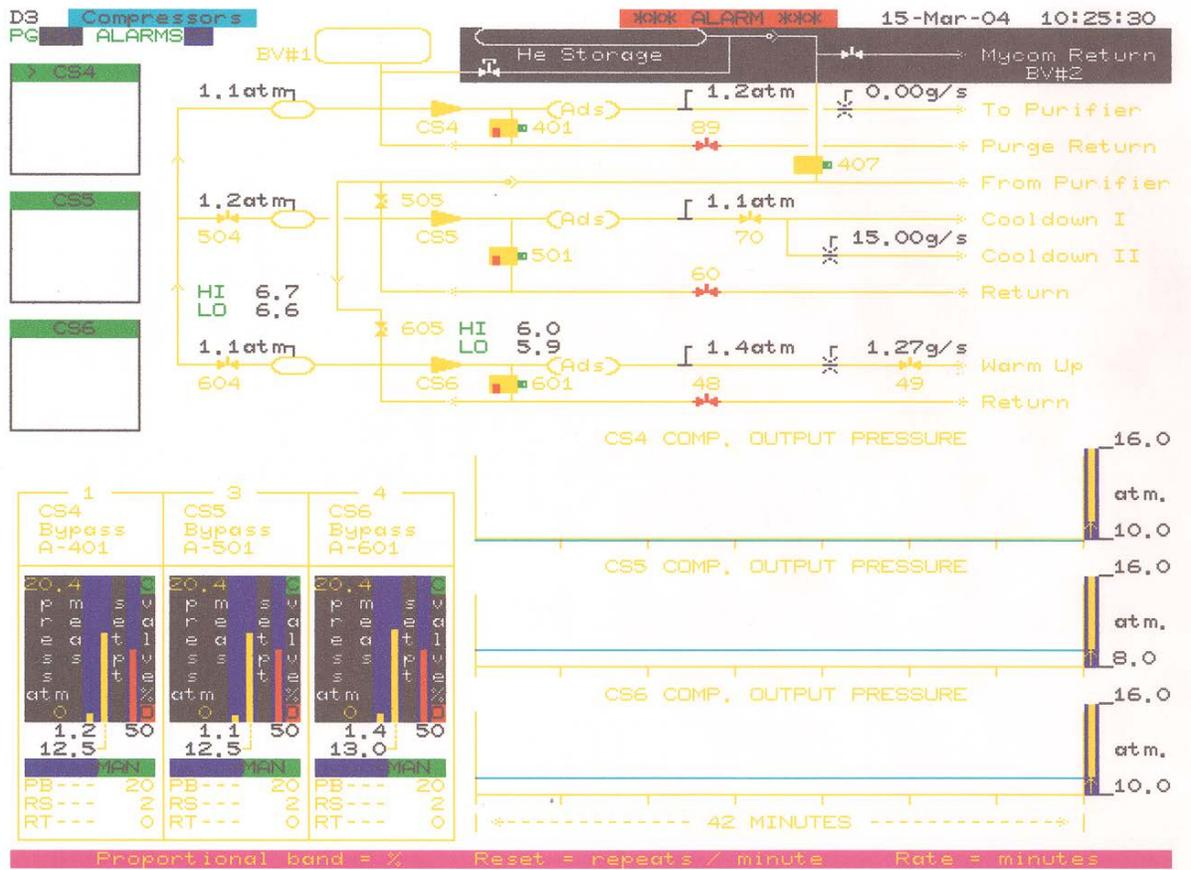

Figure 1. Display of control page D3 for 100 HP Sullair compressors CS4, 5 & 6
- 5.5.5 Set Automatic By-Pass Controller at CRT page D3, located in lower left side of Figure 1, in AUTO. (Note: Discharge pressure of the compressor is controlled from the set point of the controller. The three controllers are for CS4, CS5 and CS6).
- 5.6.2 At the computer CRT call up page D3 “Compressors” as shown in Figure 1.
- 5.6.3 Move cursor to desired compressor chevron: CS4, CS5 (for cooldown I) or CS6 (for warmup) located on the upper left side as shown in Figure 1.
- 5.6.5 Set Automatic By-Pass Controller at CRT page D3, located in lower left side of Figure 1, in AUTO. (Note: Discharge pressure of the compressor is controlled from the set point of the controller. The three controllers are for CS4, CS5 and CS6).